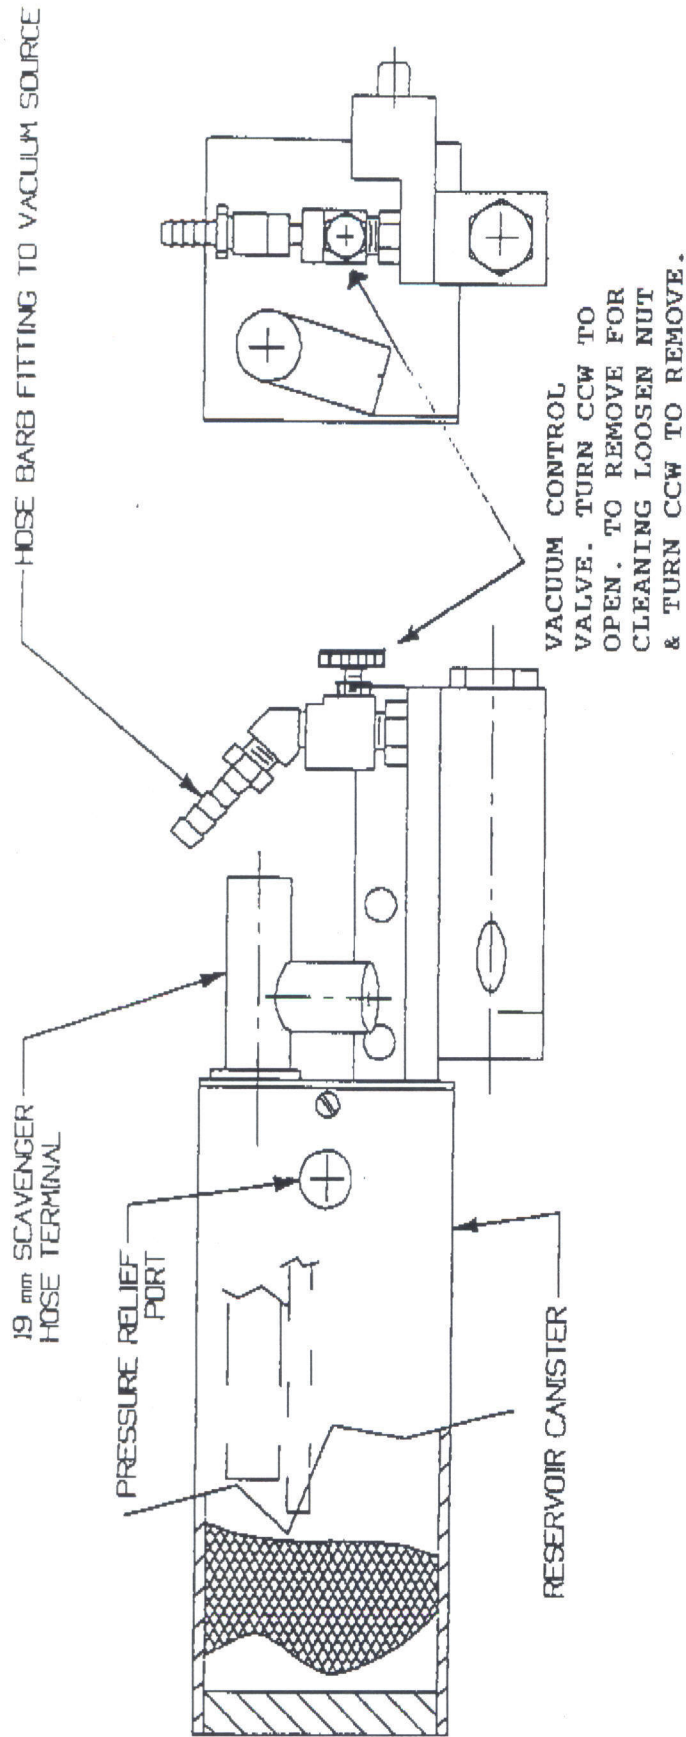

FIGURE 1
The WASTE GAS SCAVENGER incorporates two 19mm hose terminals (see Figures 1 and 2). These ports are to connect to 19mm hoses from the breathing system Adjustable Pressure Limiter (APL) valve and the Ventilator Relief Valve (VRV).
Connect one end of the two scavenger hoses to the two 19mm hose terminals on the scavenger assembly. Connect the other end of one scavenger hose to the APL Valve and one end of the other to the Ventilator Relief Valve. Connect a DISS vacuum hose to the barbed hose fitting at the rear of the WASTE GAS SCAVENGER assembly. See Figures 1 and 2.
4. The flow control valve may be removed (by turning CCW) and the valve stem examined for contamination. The valve stem may be carefully rinsed with alcohol, lubricated lightly with silicone lubricant and replaced. See Figure 1.